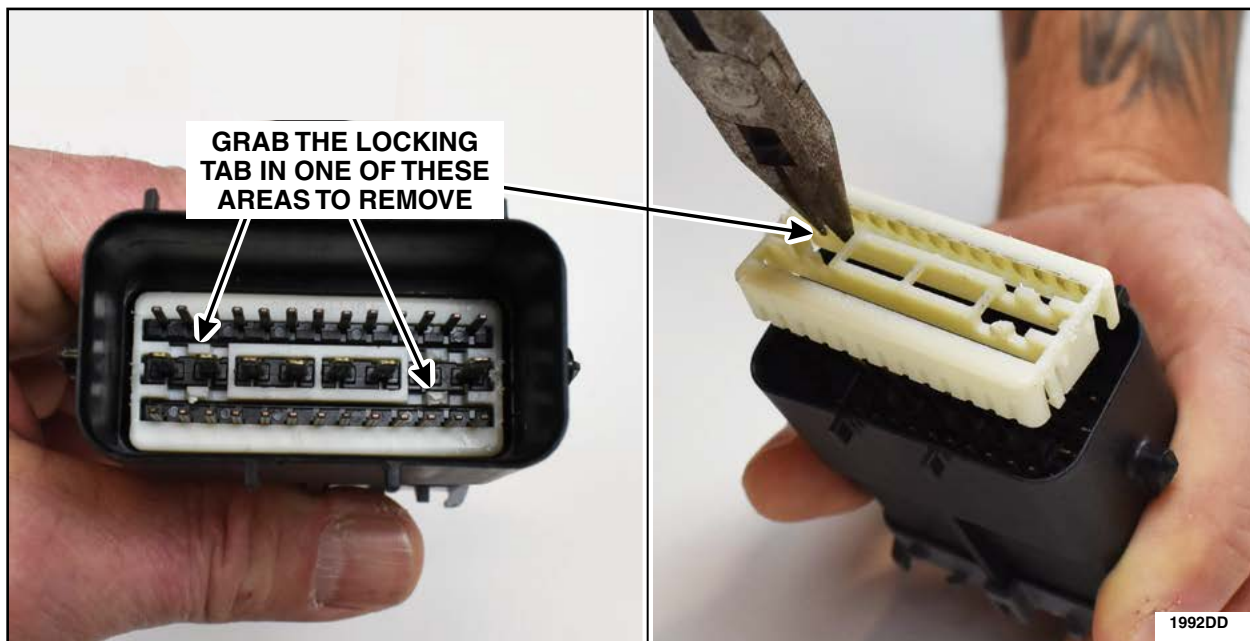

FIGURE 18
- **Male Side Pigtail**, using a small pair of needle nose pliers, or an equivalent tool, remove the white pin terminal locking tab from the *new* male pigtail connector hard shell as shown in Figure 18.